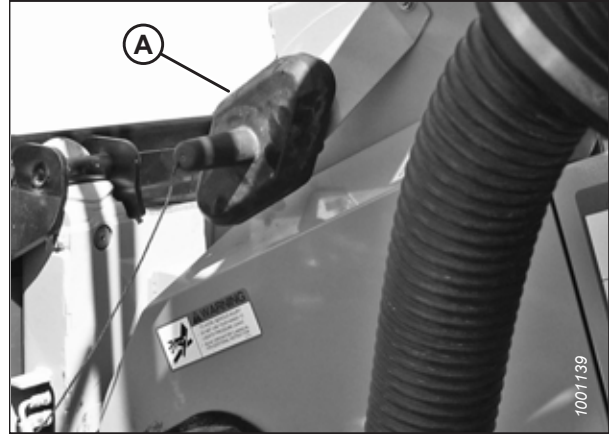

Figure 4.27: Receptacle Cover
13. Place float module receptacle cover (A) onto the combine receptacle as shown in Figure 4.27, page 74.